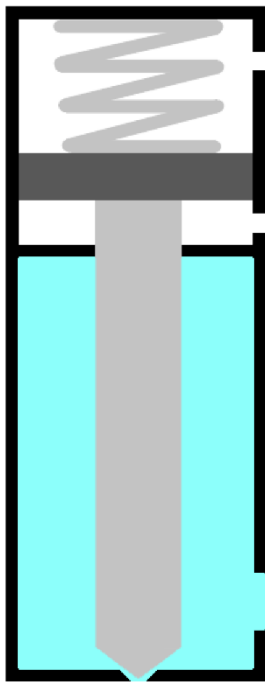
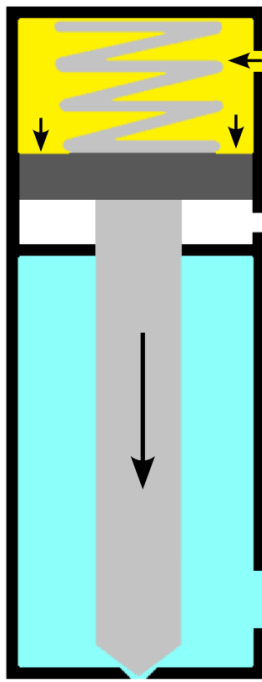
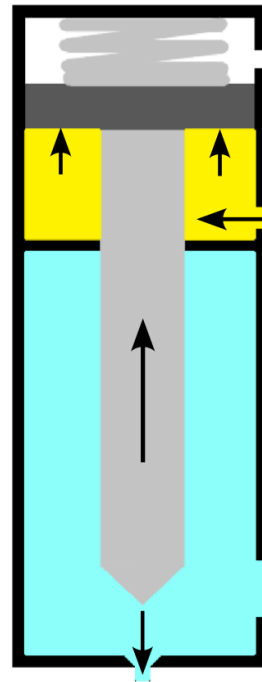

Figure 03 – Single acting rest phase
Figure 04 – Double acting rest phase
Figure 05 – Single and double acting dosing phase
In the case of single acting, what keeps the valve closed is the spring, so the fluid pressure must be below the pressure generated by the spring to keep the valve closed (Figure 03). The fluid is inside the pneumatic chamber, which is closed by the needle that is pushed by the spring. When pneumatic pressure is applied to the opening inlet, the piston rises and, consequently, also the needle, allowing fluid to pass to the nozzle (Figure 05).
In the case of double acting, the working mode is similar to that of single acting, except that, in addition to the spring keeping the valve closed, there is pneumatic pressure from the valve closing inlet (Figure 04). This is used when working with fluid pressures higher than that exerted by the spring.
- The fluid is under pressure in the fluid chamber; in the case of single acting, with only the spring pushing to close the fluid outlet (Figure 03), in the case of double acting, with also pneumatic pressure (Figure 04);
- The needle lifts, allowing fluid to exit (Figure 05);